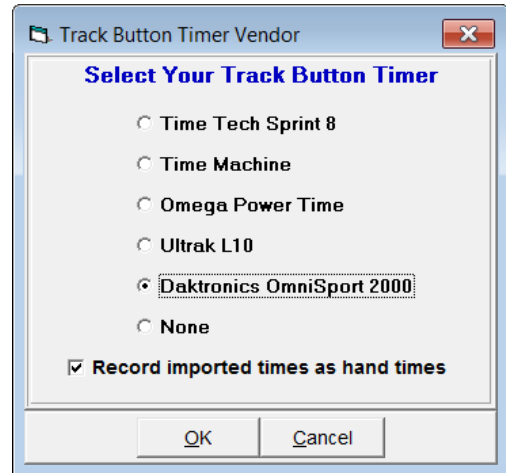

Figure 16: Track Button Timer Vendor
3. Go to **Interfaces > Set-up > Track Button Timer (Figure 16)**.